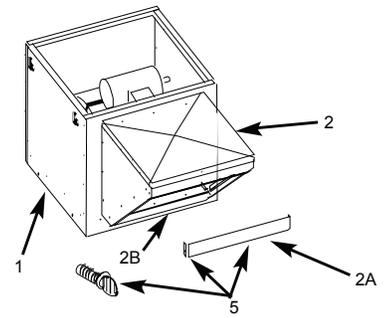
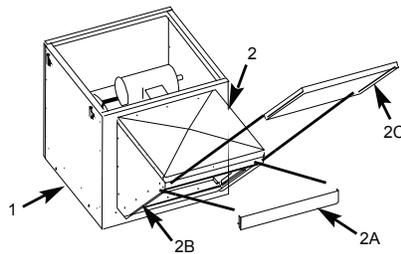

FIGURE 3
FIGURE 4
4. Remove #2a from #2 per FIG 3. Install #2C filter(s) per FIG 4. Re-attach #2A.